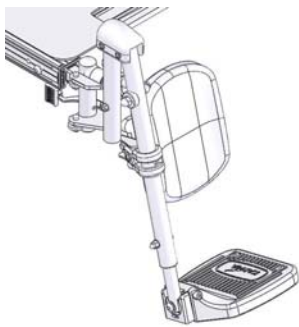

Figure 5-15
5.3.1.4.1 Elevating & Swing away Footrest is shown as Figure 5-15.